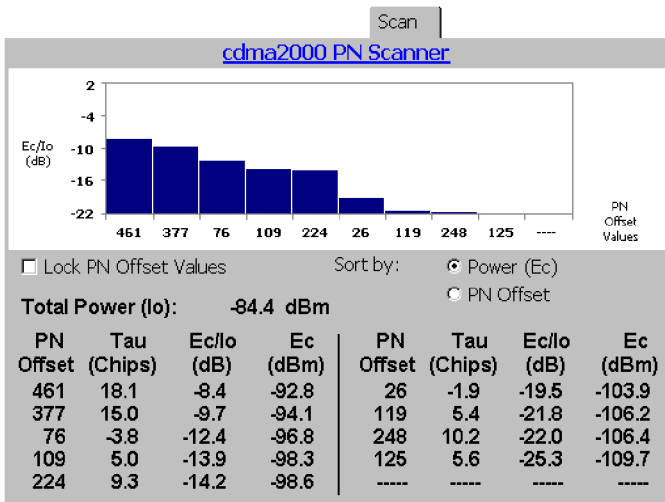

Figure 3-27: cdma2000 PN Scanner display
7. Tap the **Scan** tab. (See Figure 3-27.)